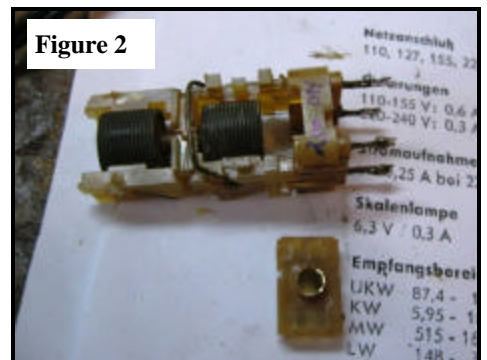

Figure 2
2. Remove the metal IF cover. Drill the rivet loose that holds the cover over the silver-covered mica wafer. (Figure 2)